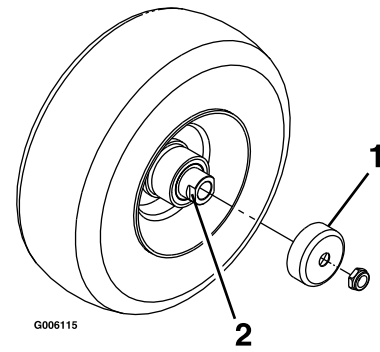

**Figure 47**
9. Remove the grease fitting from the hole. Install the hex plug and dust cap (Figure 47).